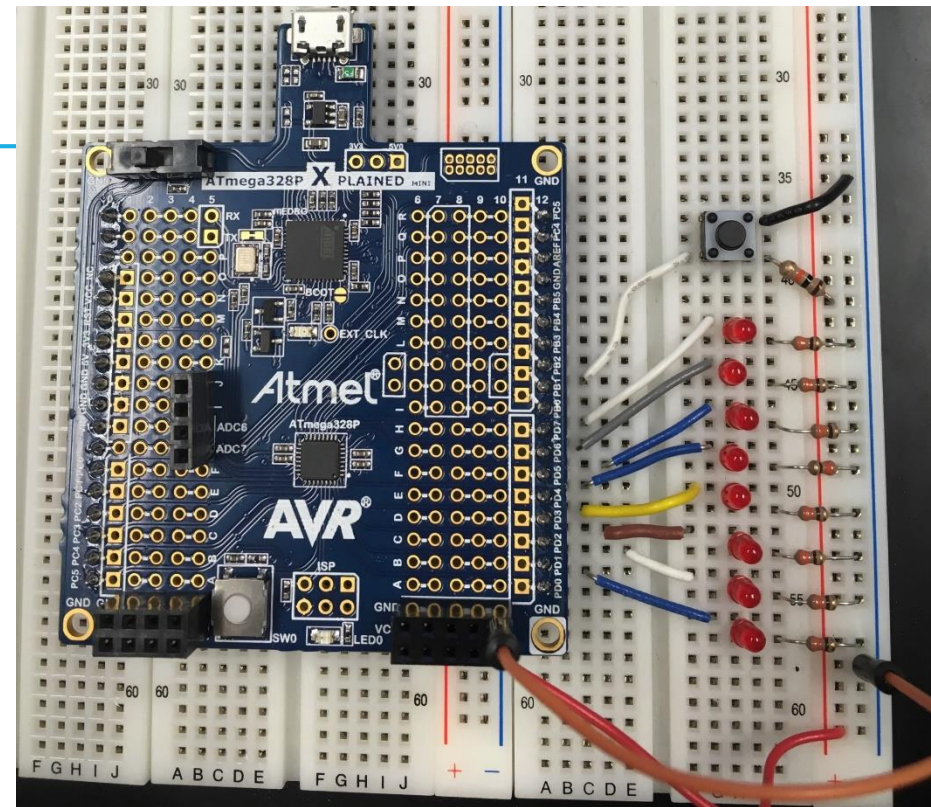

Fig1. Connections for GPIO and UART.
- Connect the board as in Fig.1. The configuration is same as Lab 3.